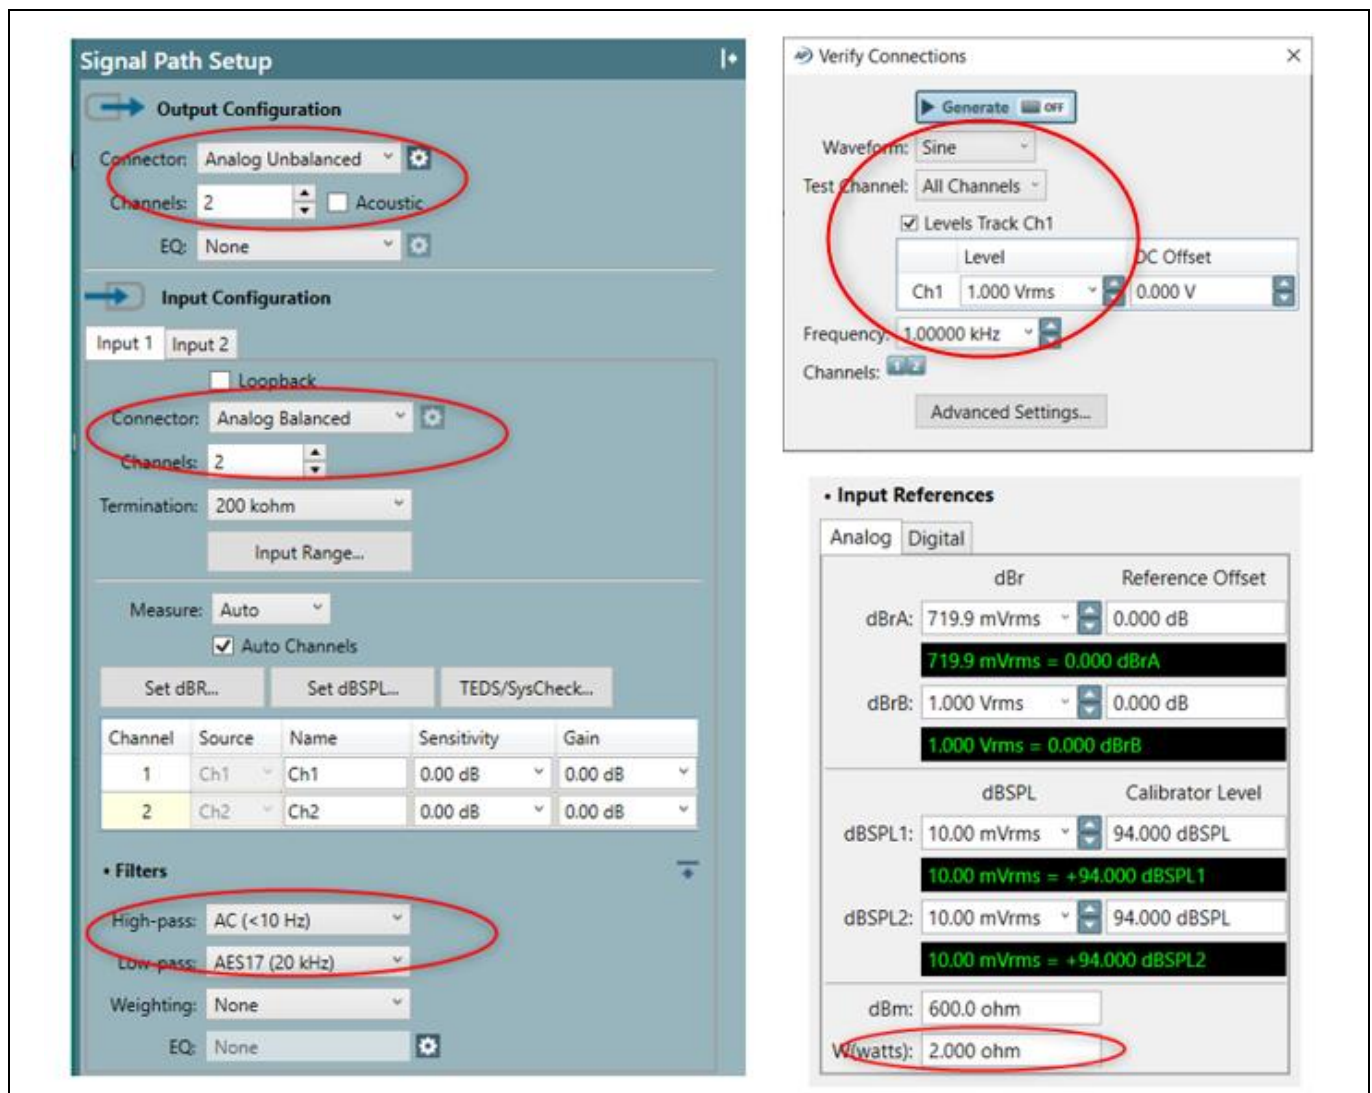
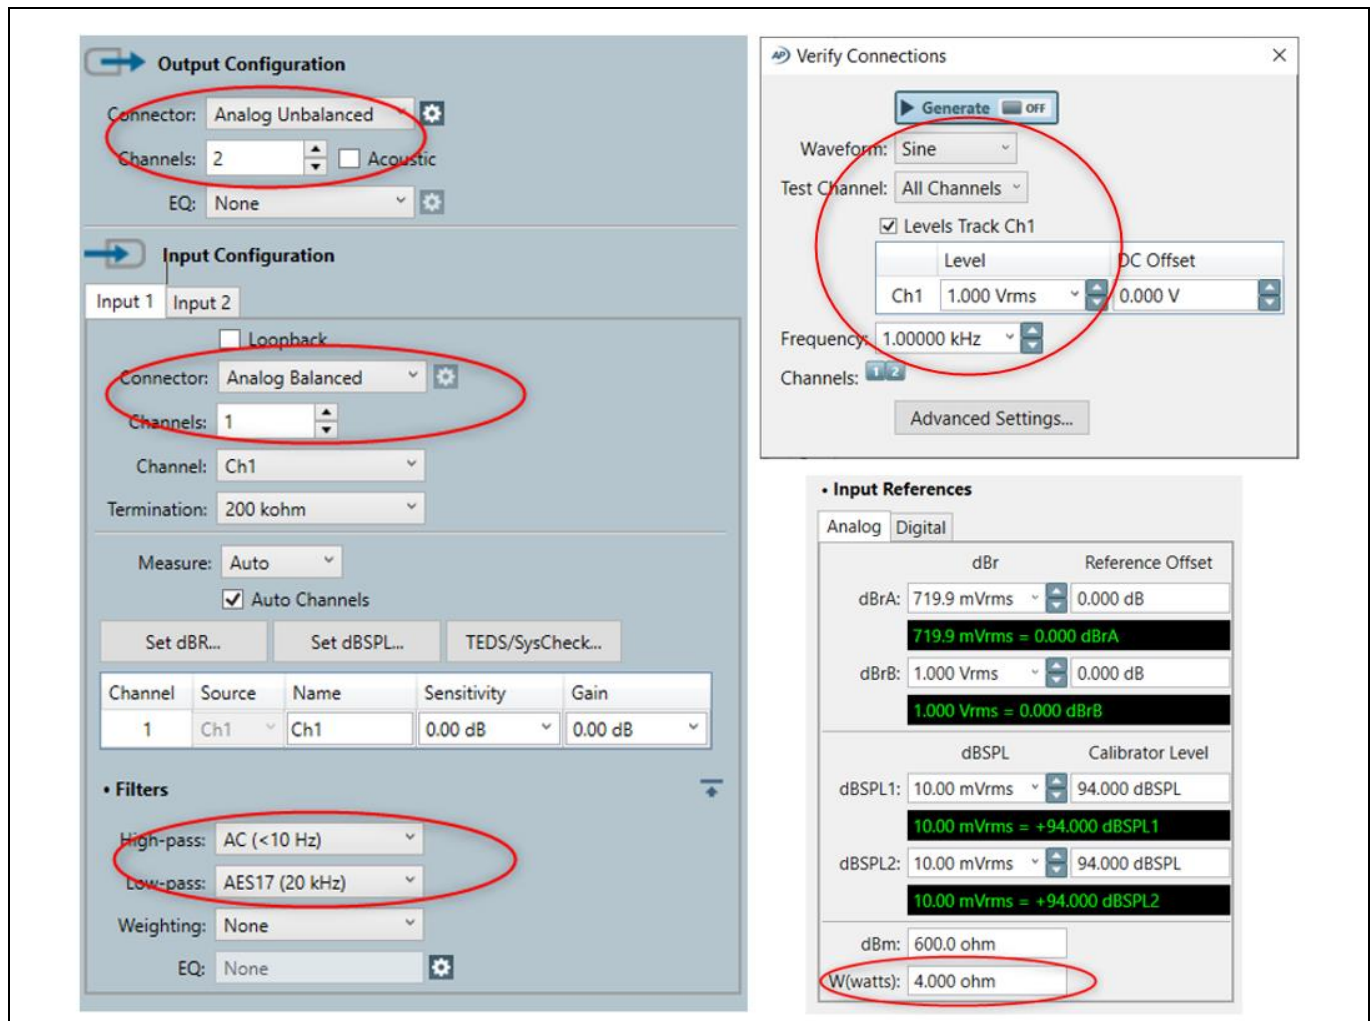

Figure 7 Typical analyzer setup for SE operation of REF_Audio_GaNb_750W
Figure 8 Typical analyzer setup for BTL operation of REF_Audio_GaNb_750W
Perform the following steps to set up the **Audio Precision** for two-channel single-ended operation as shown in Figure 7:
Perform the following steps to set up the **Audio Precision** for one-channel single-ended operation as shown in Figure 8:
1. Set the **Audio Precision** settings to match Figure 7 for SE operation and Figure 8 for BTL operation